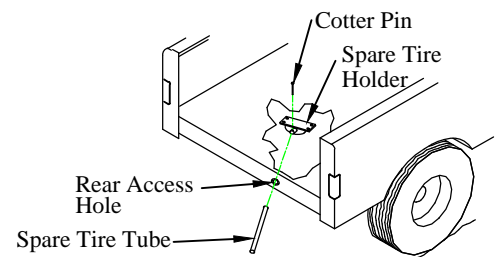

Figure 8: Spare tire tube detail.
2. **Remove** and **Save** the cotter pin from the spare tire tube (Figure 8).
3. **Pull** the tube out through the access hole in the rear of pickup (Figure 8).